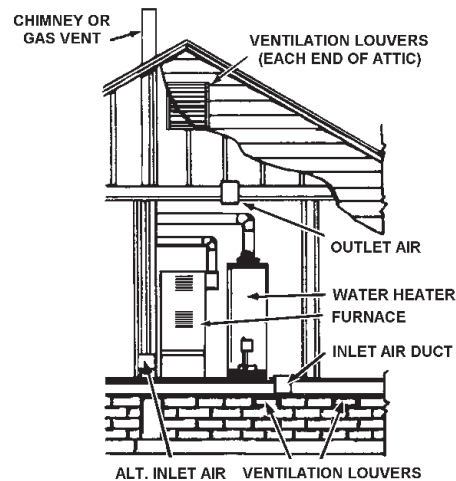

FIGURE 12.
B. ALL AIR FROM OUTDOORS: (See Figures 12, 13 and 14)
- When directly communicating with the outdoors, each opening shall have a minimum free area of 1 square inch per 4,000 Btu per hour (5.5 cm²/kW) of total input rating of all equipment in the enclosure, see Figure 12.